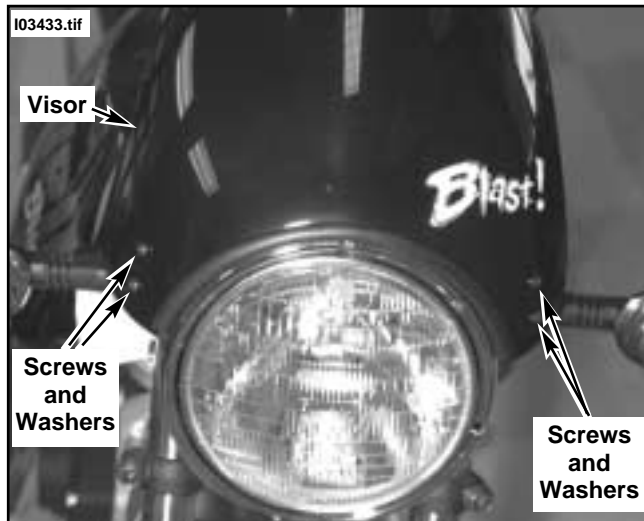

Figure 1. Headlamp Visor Hardware
1. See Figure 1. Remove four screws and plastic washers securing (OE) original equipment headlamp visor. Retain two screws and two washers for installation.